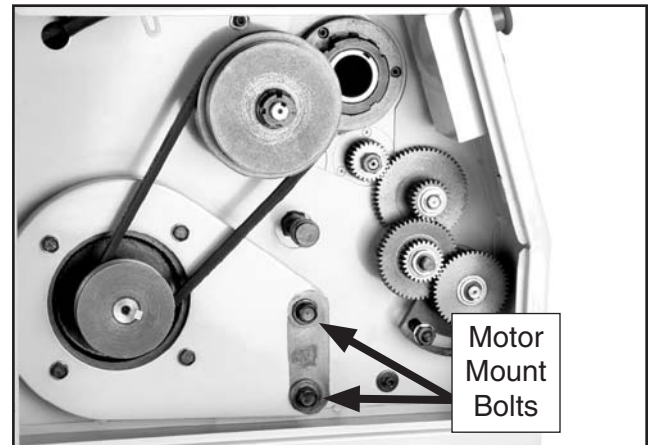

Figure 53. Motor mount bolts.
2. Open the change gear access door (**Figure 53**).
3. Loosen the four motor access cover screws, and lift the cover off (**Figure 53**).
4. Using a 17mm wrench, loosen the two motor mount bolts shown in **Figure 53**.